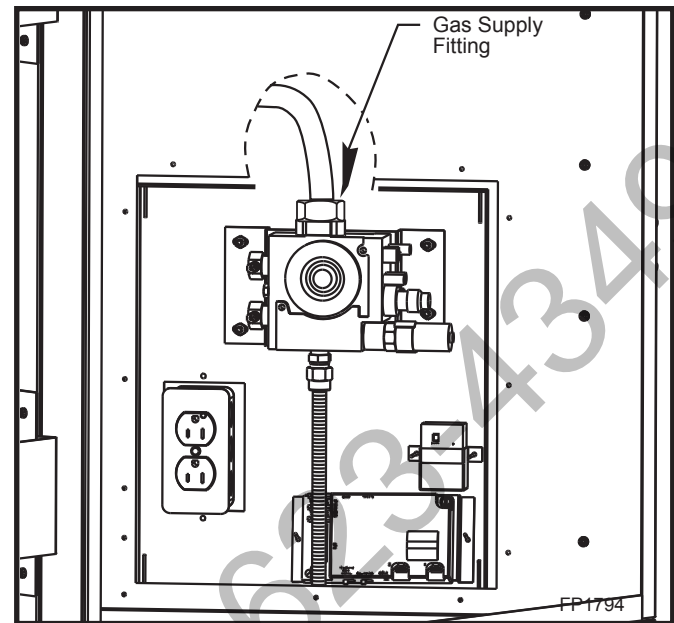

Fig. 9 Connect gas supply to valve.
6. Remove pilot assembly from burner assembly by removing two (2) screws.
10. Connect the gas supply to the valve. (Fig. 9) Be sure to use a back-up wrench when tightening supply fitting.